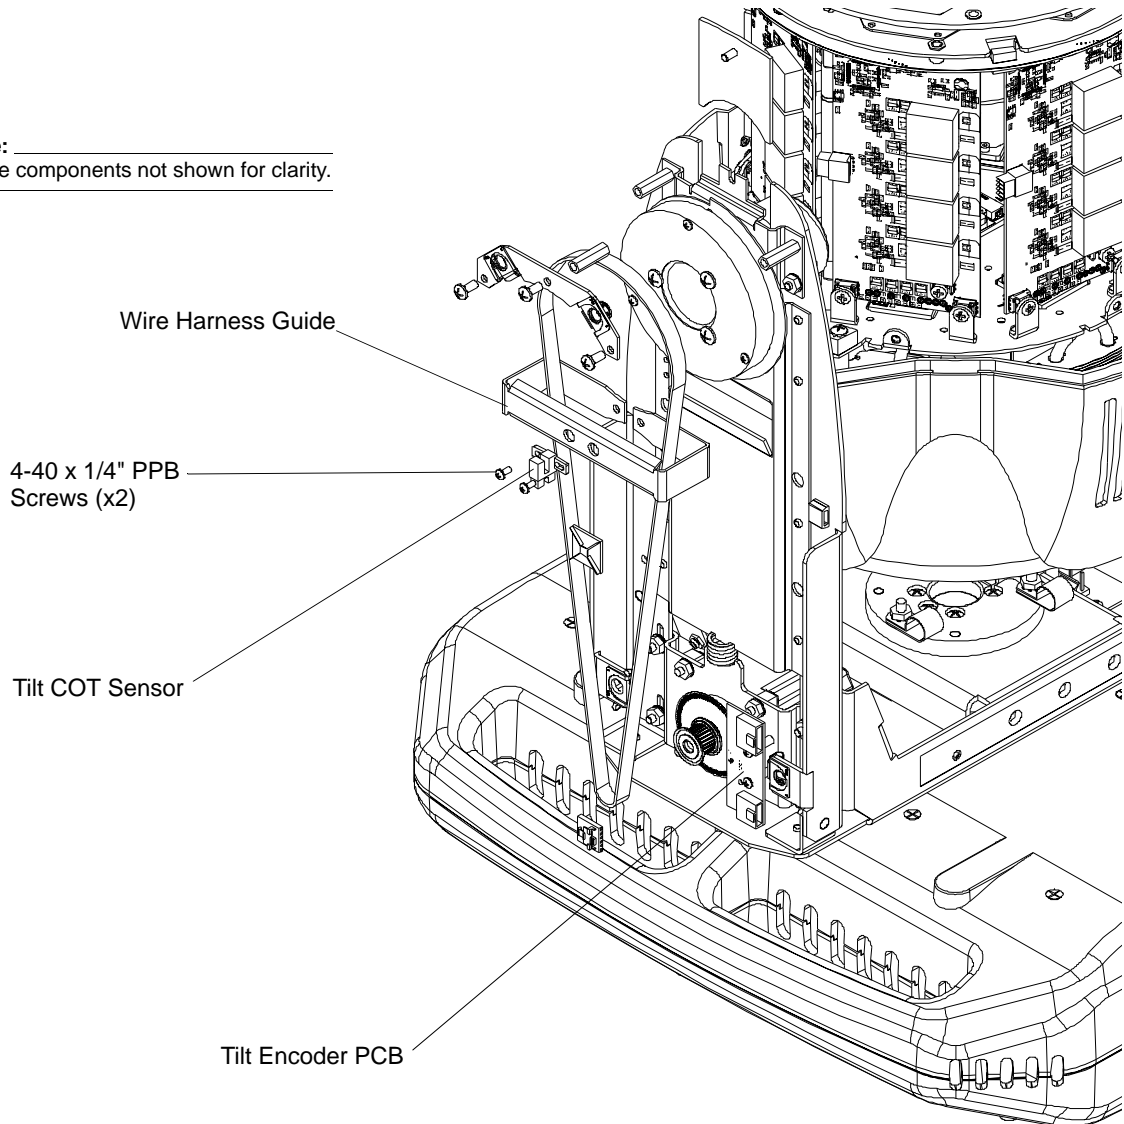

Figure 2-21: VLX Wash Tilt Sensor Replacement
- Step 5. As shown in Figure 2-21, passing screwdriver through holes in harness guide, remove two 4-40 x 1/4" PPB screws.